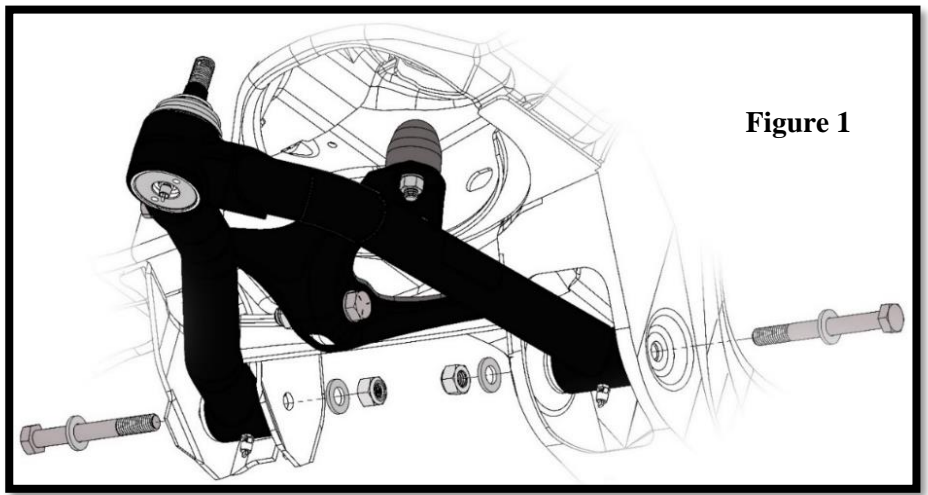

Figure 1
**(Figure 1)** Install the wider front pivot point with the longer mounting bolt. S10 arms use a 14mm bolt in the front pivot and a shorter 12mm in the rear connection. Torque hardware to 65 lb. ft.